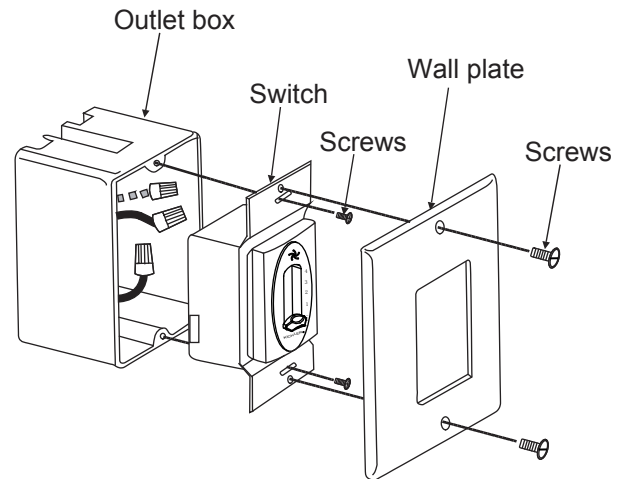

Fig. 21
Step 8. Install the wall plate on the existing wall outlet box using the screws provided. (Fig. 21)